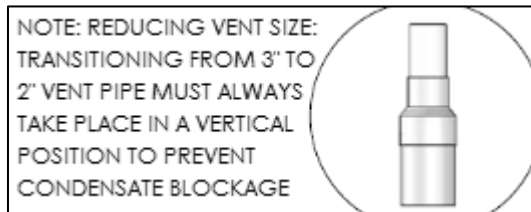

Figure 12 – Transitioning from 3” to 2” Vent Pipe
5. For 2" installations, install a reducing coupling in a vertical section of pipe. See Figure 12.